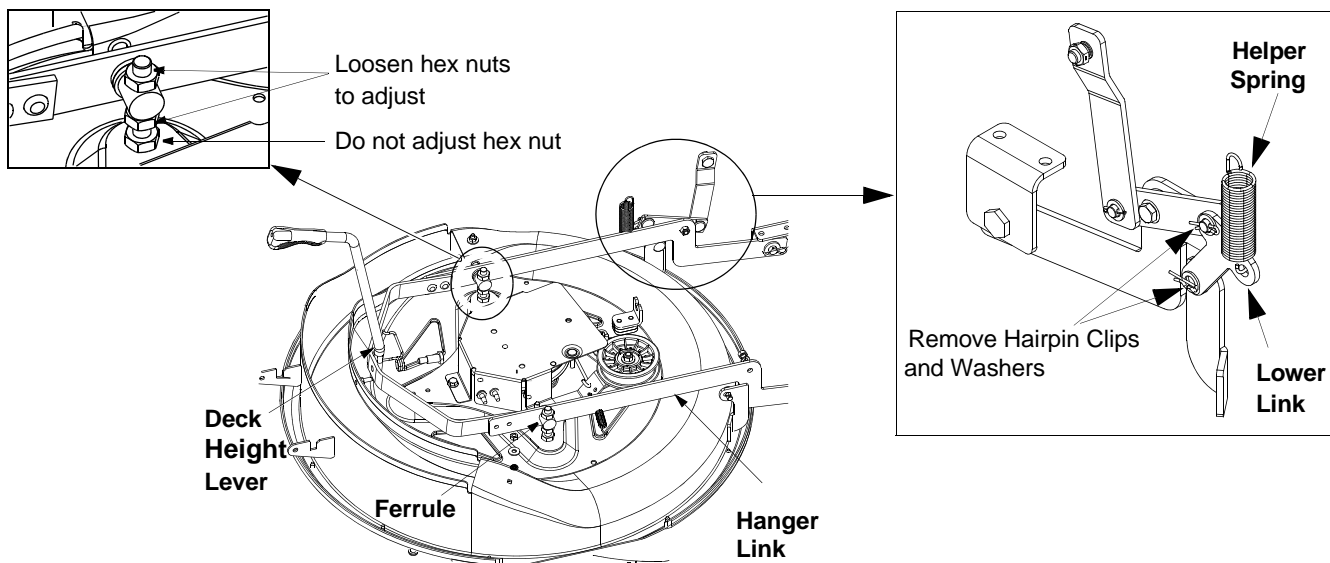

Figure 14
- Completely loosen, but do not remove, the top hex nut out of the three hex nuts that hold the hex bolt and the ferrule on the deck hanger link assembly. See Figure 14 .
- Reattach lower links as shown in Figure 14 inset.
- Thread the middle nut up against the base of the ferrule. See Figure 14 .